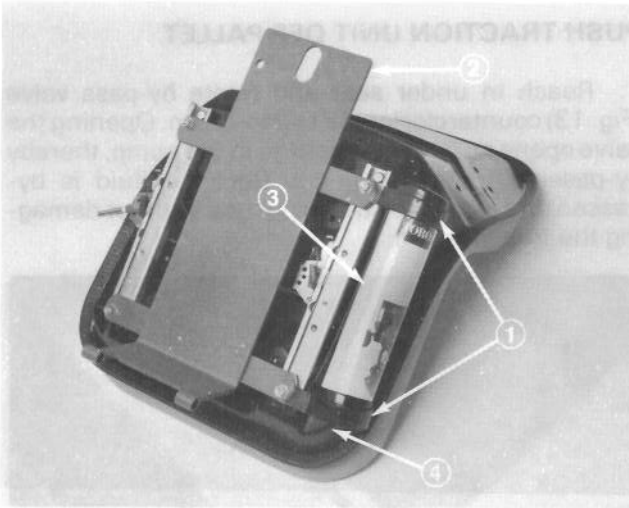

Figure 7
4. Loosely secure (2) R-clamps to right side of seat bottom with (2) capscrews supplied in kit (Fig. 7). Install manual tube into R-clamps and tighten capscrews (Fig. 7).
5. Mount seat support over all four threaded studs and secure in place with lockwashers and nuts (Fig. 7).